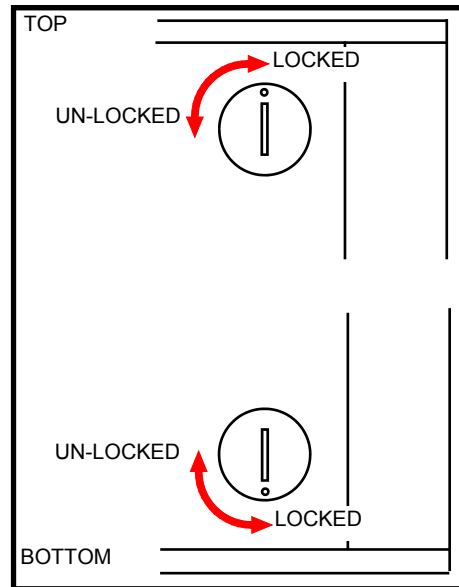

Figure 4.1
**Inner surfaces:** To clean between the inner and outer door glasses, firstly ensure the door is locked shut. With a screwdriver, coin, or other suitable device,  $\frac{1}{4}$  turn the outer glass locks to release the outer glass and allow it to be hinged open for cleaning access (refer to figure 4.1 for correct procedure).